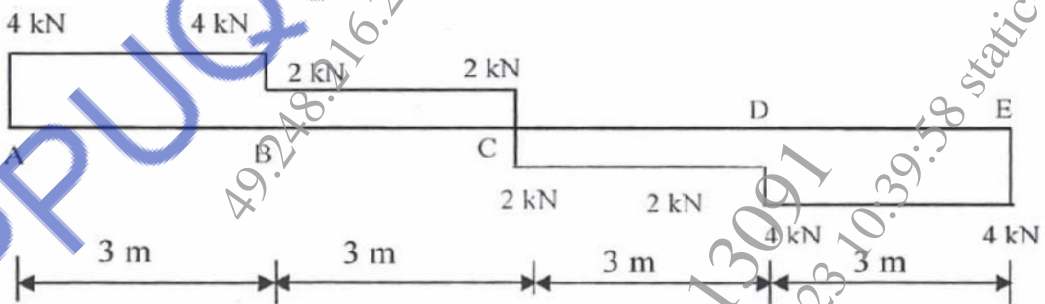

Figure 4
- Q4) a) Draw bending moment diagram and loading diagram from given shear force diagram as shown in figure 4. [8]